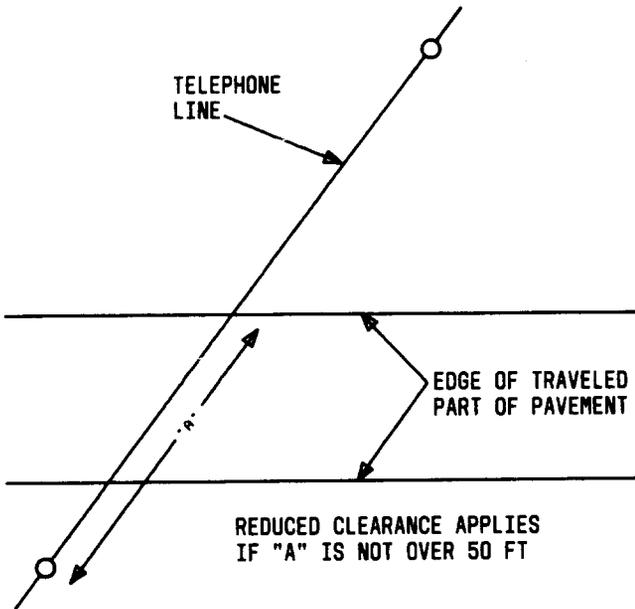

Fig. 2—Midspan Sag Diagram
1.06 The clearances for **wire crossing alleys, roads, etc**, show one set of values for general use and a second (generally lower) set of values when one pole is within 50 feet of the edge of the road as shown in Fig. 2.
1.07 Where poles can be located within 50 feet of the far edge as shown in Fig. 2, it will not always be necessary to base the height of attachment upon 100 percent of the midspan sag. The approximate percentage of sag which should be used in determining the height of pole attachments when Fig. 2 applies is shown below. This procedure should be ignored for spans under 180 feet.